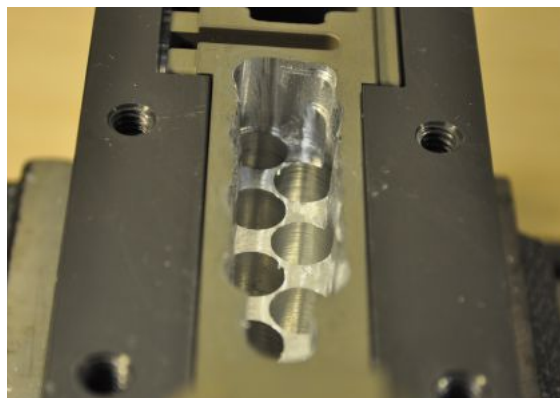

Figure 3.10: Lower after consecutive roughing passes from start to 2.5 hash
- i. In a repeating fashion, Use gauge to incrementally increase the end-mill depth by $\frac{1}{2}$ to $\frac{1}{3}$ hash and execute a rough pass until the depth of 2.5 to 2.66 hash is achieved (figure 3.10)